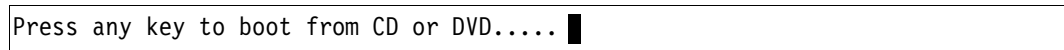

Figure 9-36 Prompt to press a key to boot from the CD or DVD
- When the DVD starts to load, if prompted to press any key (Figure 9-36), press a key so that the DVD starts to boot. If you do not press a key, you return to the UEFI setup window.